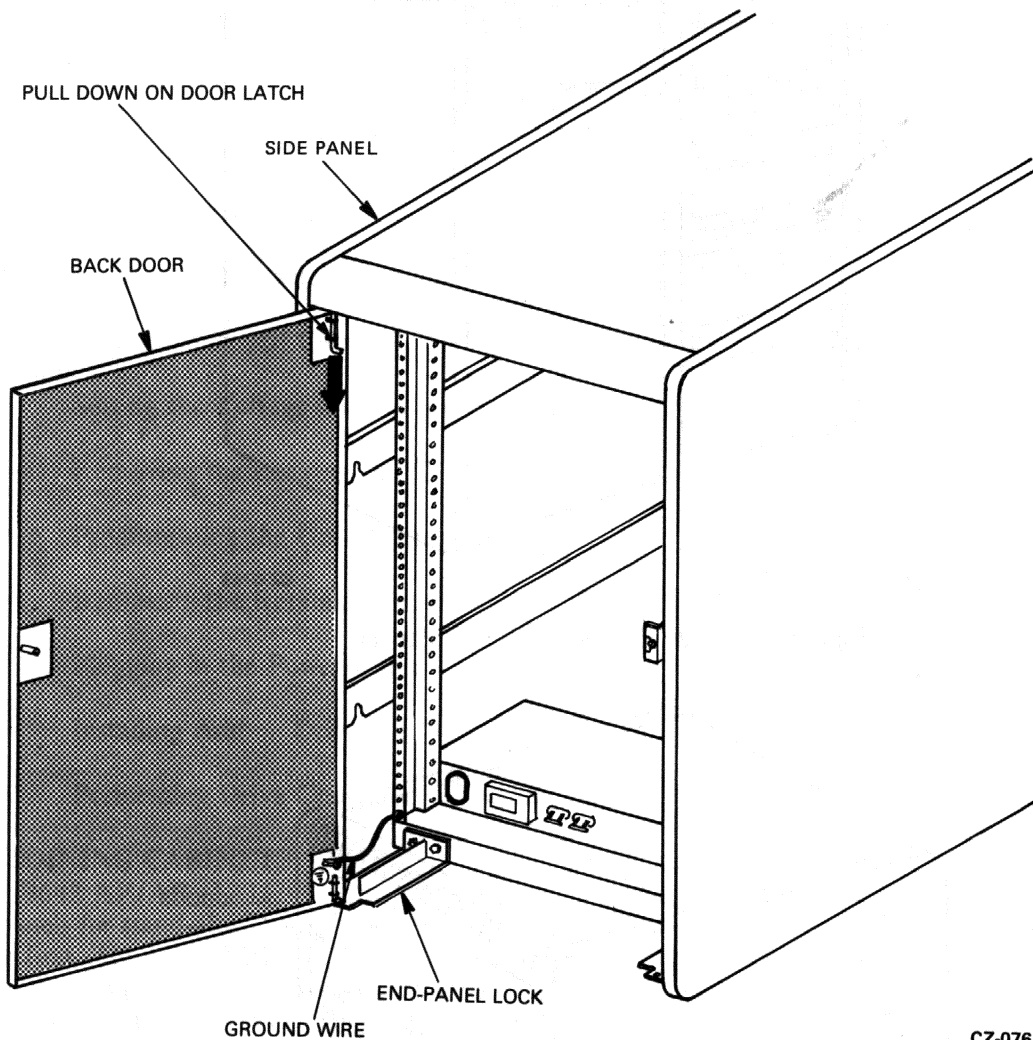

Figure 2-5 Back Door and End Panel Lock Removal
2. Remove the back cabinet door by unscrewing the ground wire from the door and then pulling down on the top door latch. The door should now be free to lift off of the bottom end panel lock. Refer to Figure 2-5.
3. Loosen the two hex screws that secure the end panel lock to the base of the disk cabinet. Then lift the end panel lock off. Refer to Figure 2-5.